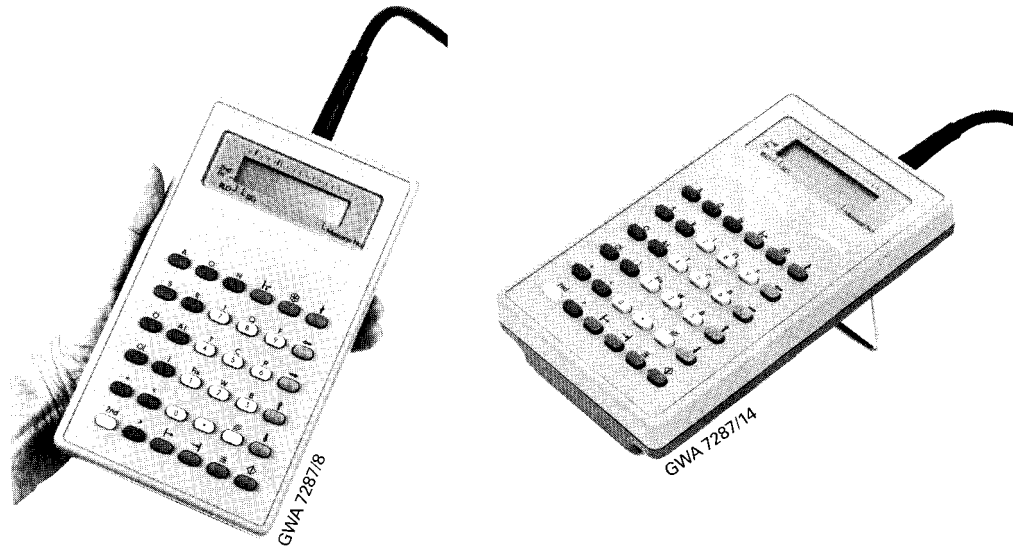

Figure 3-2. The PG 605U as a Handheld and Desktop Unit
- Handheld use (→ Figure 3-2.)
- Desktop use (→ Figure 3-2.)